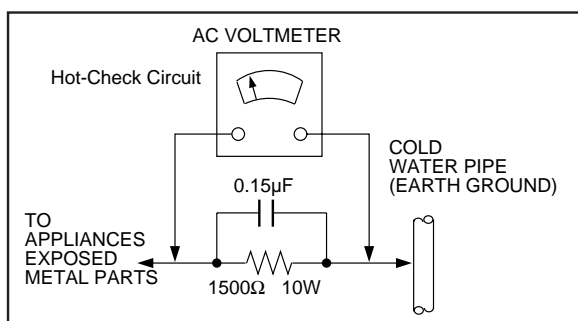

Figure1
LEAKAGE CURRENT HOT CHECK (See Figure 1)
2. Connect a $1.5k\Omega$, 10W resistor, in parallel with a $0.15\mu\text{F}$ capacitor, between each exposed metallic part on the set and a good earth ground such as a water pipe, as shown in Figure1.